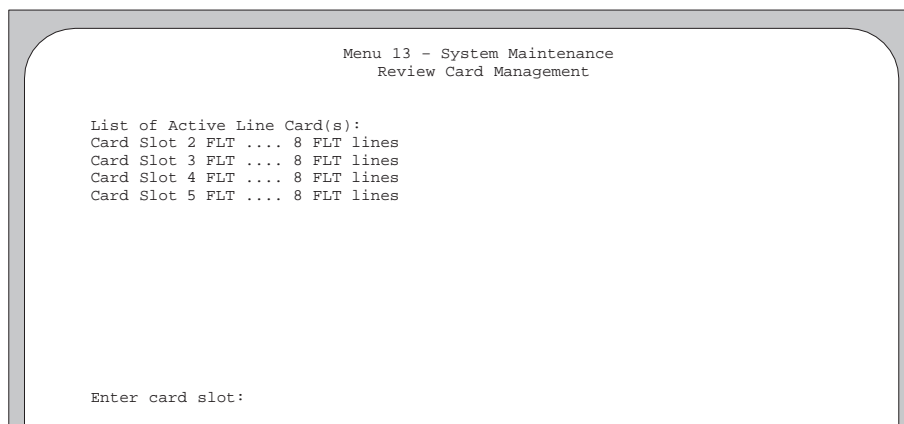

Figure 12-3. Example of Menu 13.11, Review Card Management.
2. From the SMT Main Menu, access Menu 13 – System Maintenance, then Menu 13.11, Review Card Management, as shown in the example in Figure 12-3.